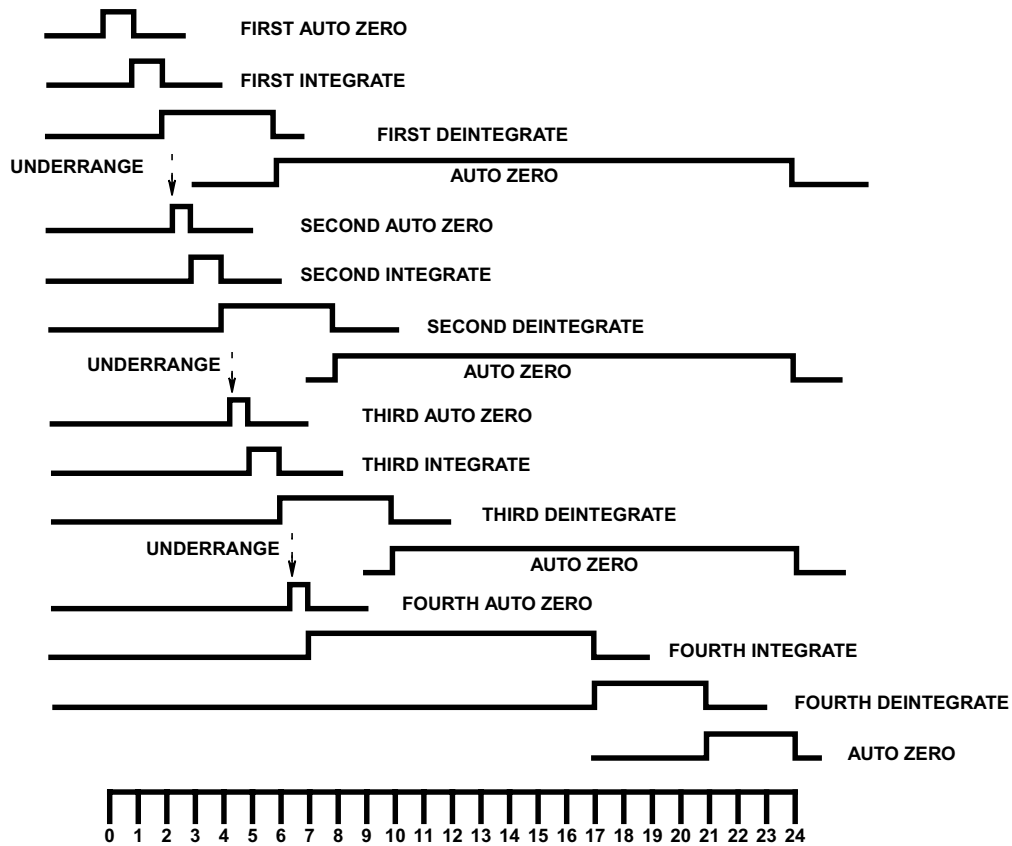
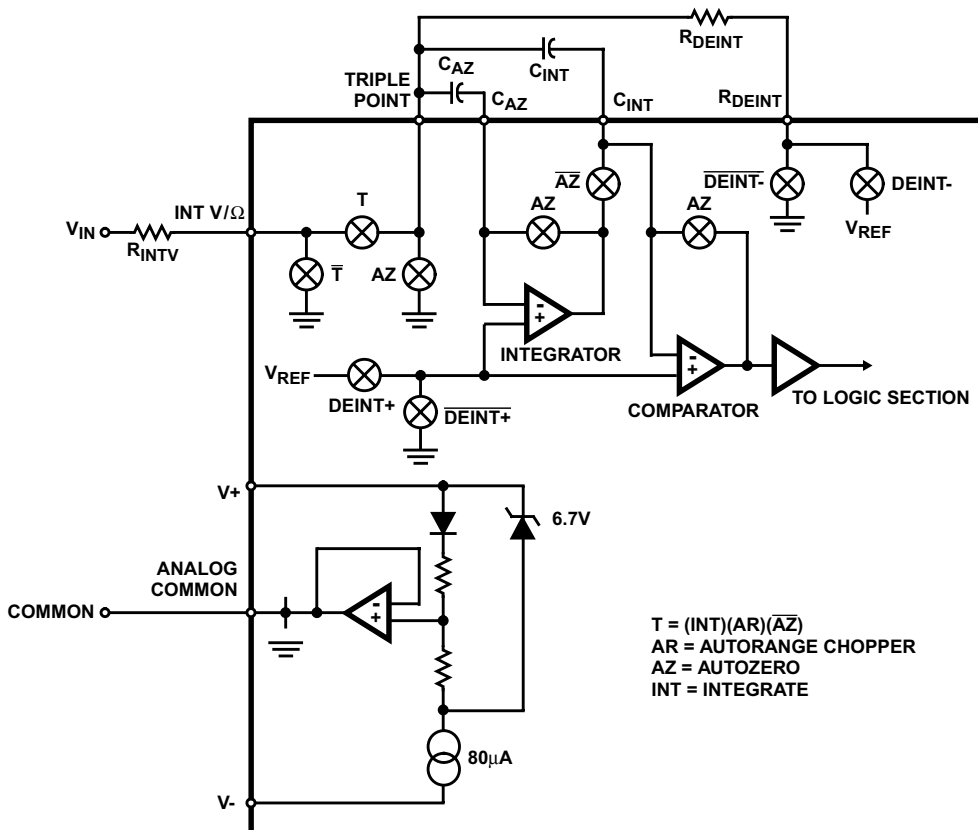

FIGURE 1. LINE FREQUENCY CYCLES (1 CYCLE = 1000 INTERNAL CLOCK PULSES = 2000 OSCILLATION CYCLES)
FIGURE 3. DETAILED CIRCUIT DIAGRAM FOR DC VOLTAGE MEASUREMENT
V+ = 9V, TA = 25°C, VREF adjusted for -3.700 reading on DC volts, test circuit as shown in Figure 3.
Only those portions of the analog section which are used during DC voltage measurements are shown in Figure 3. As shown in the timing diagram (Figure 1), each measurement starts with an autozero (AZ) phase. During this phase, the integrator and comparator are configured as unity gain buffers and their non-inverting inputs are connected to Common. The output of the integrator, which is equal to its offset, is stored on CAZ - the autozero capacitor. Similarly, the offset of the comparator is stored in CINT. The autozero cycle equals 1000 clock cycles which is one 60Hz line cycle with a 120kHz oscillator, or one 50Hz line cycle with a 100kHz oscillator.